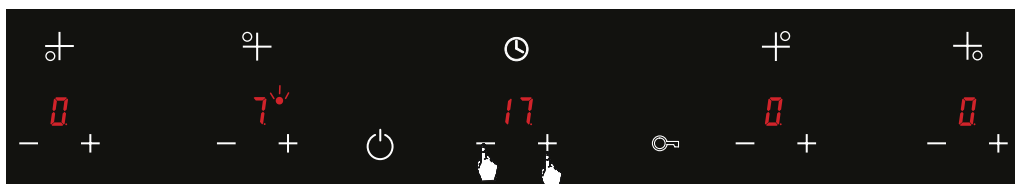

Figure 52
2. The desired time is set to the desired time between 1 and 99 minutes using + and - buttons when the temperature level setting time is active (for 10 seconds). (See Fig. 52)